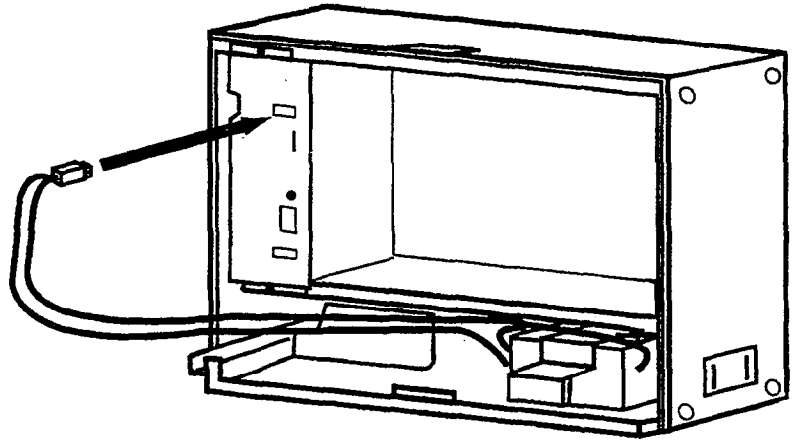

Figure 2-18 Connecting the Batteries to the Power Supply Unit
3. Connect the cord to the DC IN connector of the power supply unit. Refer to Figure 2-18 - Connecting the Batteries to the Power Supply Unit.